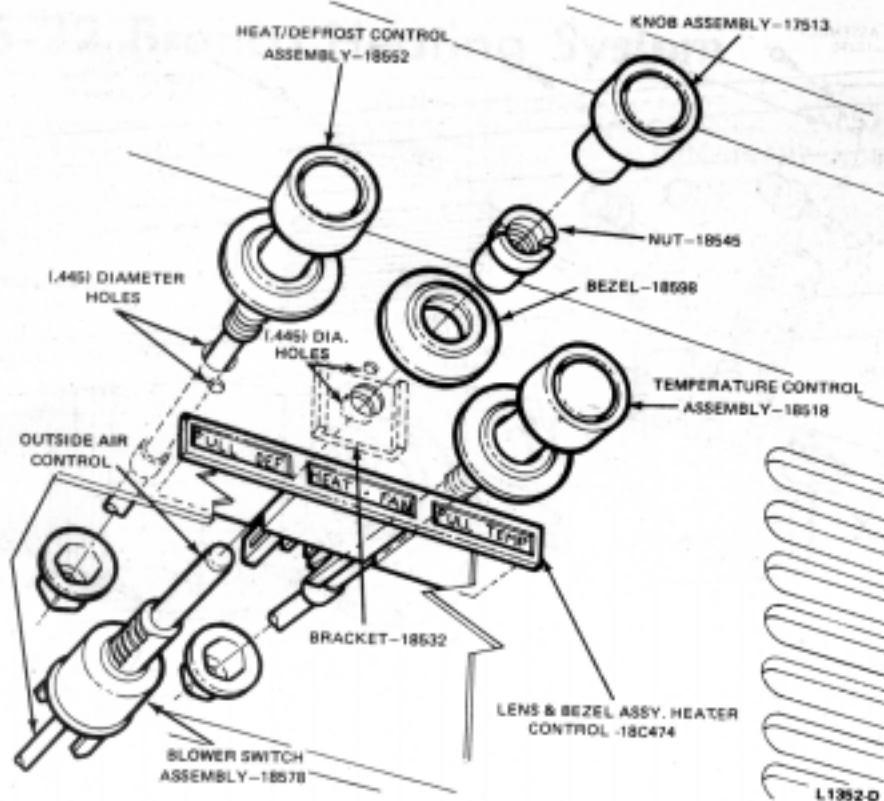

FIG. 2 Heater Controls—Bronco
The temperature (right) control (Fig. 2) operates a cable connected to the heater water valve (Fig. 1). Pushing the knob in closes the water valve, shutting off the flow of hot coolant from the engine through the heater core (no heat). Pulling the knob out opens the valve to allow flow of hot coolant through the core. The farther out the knob is pulled, the greater the coolant flow and the higher the temperature. At full out position, the water valve is wide open (maximum heat).
1. Remove the control knob (center control, Fig. 2). Push up on the clip in the knob to remove it.
2. Remove the blower control switch bezel nut and the bezel (Fig. 2).